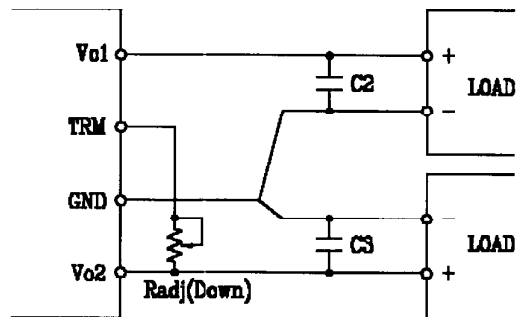

Fig. 3-5 : Connection for output voltage trim down
- b) Vo2 terminal : to adjust to lower output voltage; Fig.3-5.